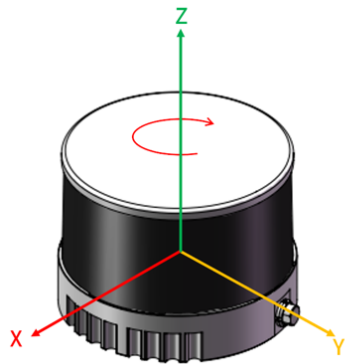
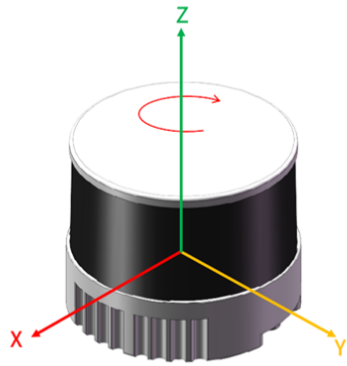

Figure 2. Coordinate system (isometric view)
Figure 4. Coordinate system (isometric view)
- The lidar's coordinate system is illustrated in Figure 2, “Coordinate system (isometric view)” and Figure 4, “Coordinate system (isometric view)”. Z-axis is the axis of rotation.